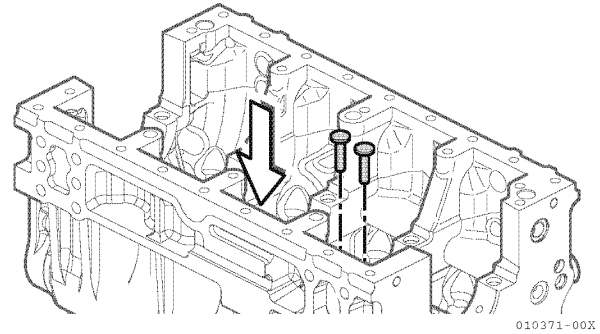

Figure 5-128
3. Coat the inside of the cylinder block tappet holes and the outside circumference of the tappets with engine oil, then insert the tappets in the cylinder block (**Figure 5-128**).